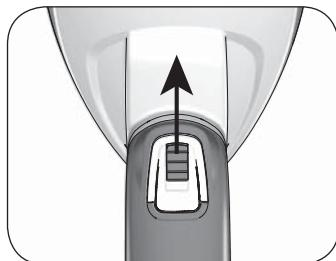
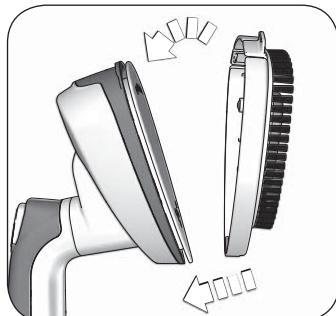
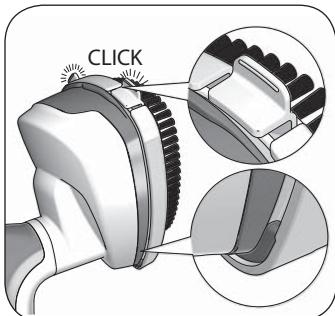
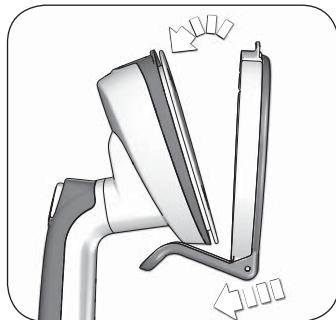

Fig. 13
Fig. 14
Fig. 15
Fig. 16
3. To emit a continuous and constant jet of steam, move the continuous steam lock slider upwards (Fig. 13).
1. Attach the brush. First insert the brush tip (Fig. 14). The correct insertion is done with a "click" (Fig. 15).
2. Place the garment on a folding rack. Pull the garment with your free hand. Place the appliance on the garment folds. Press the steam button (F) and then release it. Move the appliance from right to left. Move the appliance from the bottom upwards and brush. Press the steam button (F) several times.
2. Assemble the wrinkles accessory. The correct insertion is done with a "click" (Fig. 16).
3. Place the garment on a folding rack. Pull the garment with your free hand. Push the accessory levier. Insert the cloth in the slit. Press the steam button (F) and then release it. Move the appliance from the top to bottom until you removed the wrinkle. Press the steam button (F) several times.
4. To emit a continuous and constant jet of steam, move the continuous steam lock slider upwards (Fig.13).